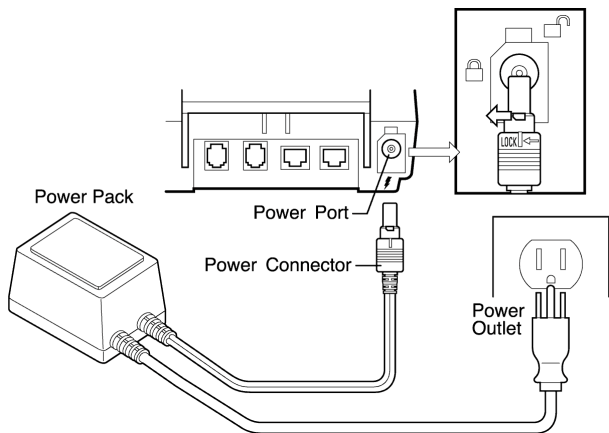

Figure 14 Omni 3200M Power Pack Connection
1. Insert the round connector that is on the end of one of the two power pack cables into the power port on the back panel of the terminal (see Figure 14). The power port is identified by the “electrical power” icon, shown to the right.
2. To complete the power connection, plug the metal prongs on the end of the other power pack cable into an electrical power outlet (see Figure 14).